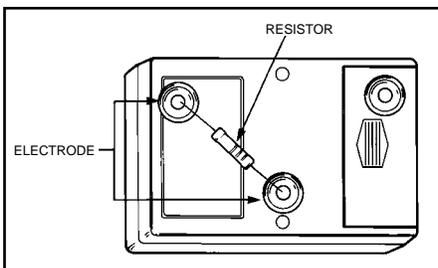

Figure 8. Calibration of the : Meg
Any : Meg may be returned to the factory for calibration. Contact our Customer Service Department at 00 44 (0) 1892-665313 for a Return Material Authorization. Written Purchase Orders are required for calibration services. A check on the function of the : Meg can be performed with the following procedure. You will need 1% resistors of the following values: 100K, 1M, 10M, 100M, 1G and 10G ohms. These precision resistors will be placed across the two electrodes on the bottom of the meter (see Figure 8).
B. Place the 10G ohm resistor across the middle electrode and the side electrode as illustrated in Figure 8. Press the test button. The second LED should light. Be sure not to contact the leads or the buttons as your body's resistance will affect the readings.